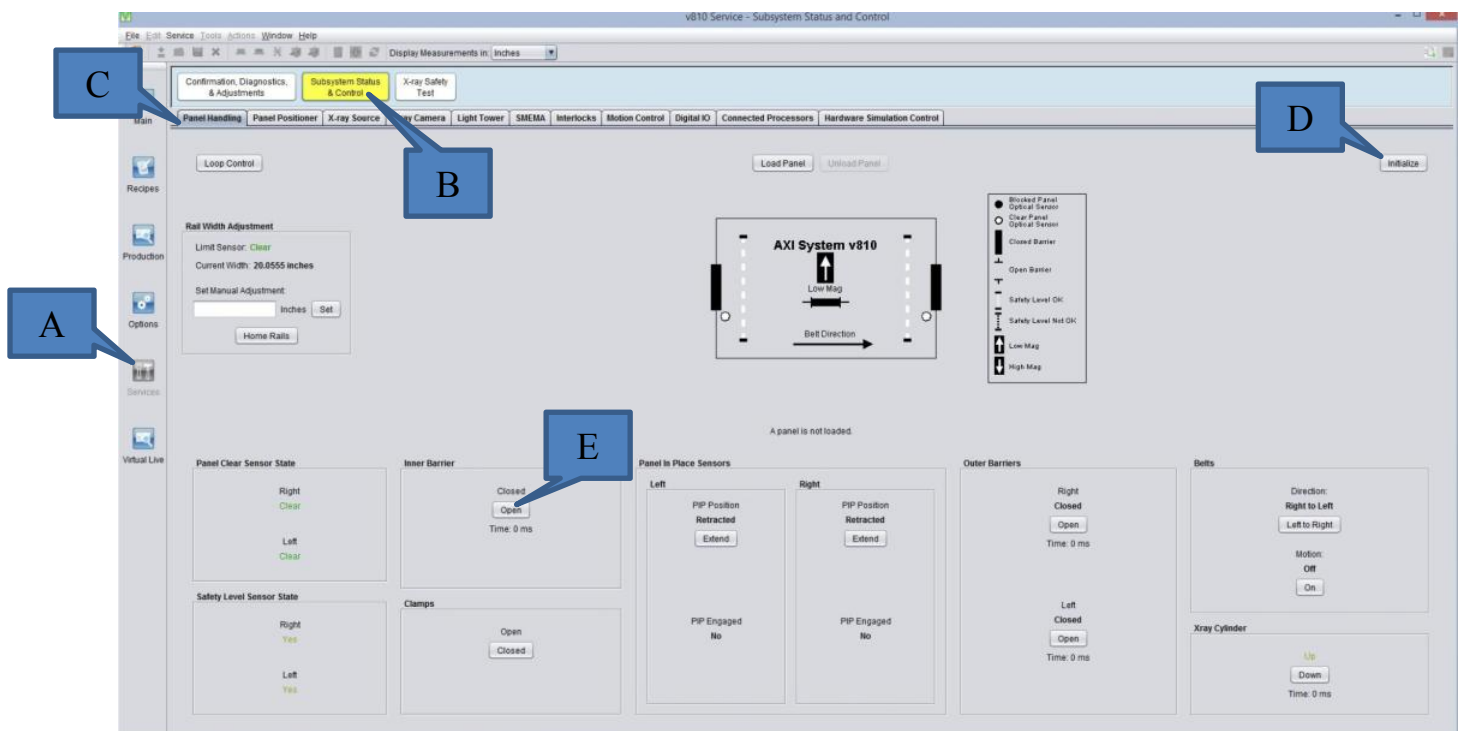

Figure 4
4. Go to Panel Handling tab and initialize as show in Figure 4. Inner Barrier in Open position,